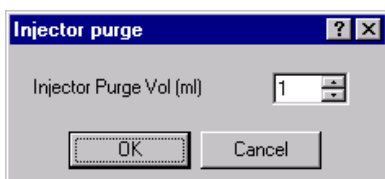

Figure 3-23 Injector Purge Dialog Box
3. When the solvent reaches the specified flow rate, select Operations > Inj Purge to open the Injector purge dialog box (Figure 3-23).